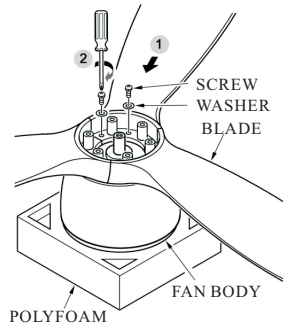

FIG.1
1. Attach each blade assembly to the fan body using the blade screws. Tighten them securely.(See Fig.1)
**NOTE:** The frequencies on the Receiver and Transmitter have been preset at the factory. Before installing the Receiver, make sure the dip switches on the Receiver are set to the same position as on the Transmitter (FIG.1). The dip switches on the Transmitter are located on one side of the control.